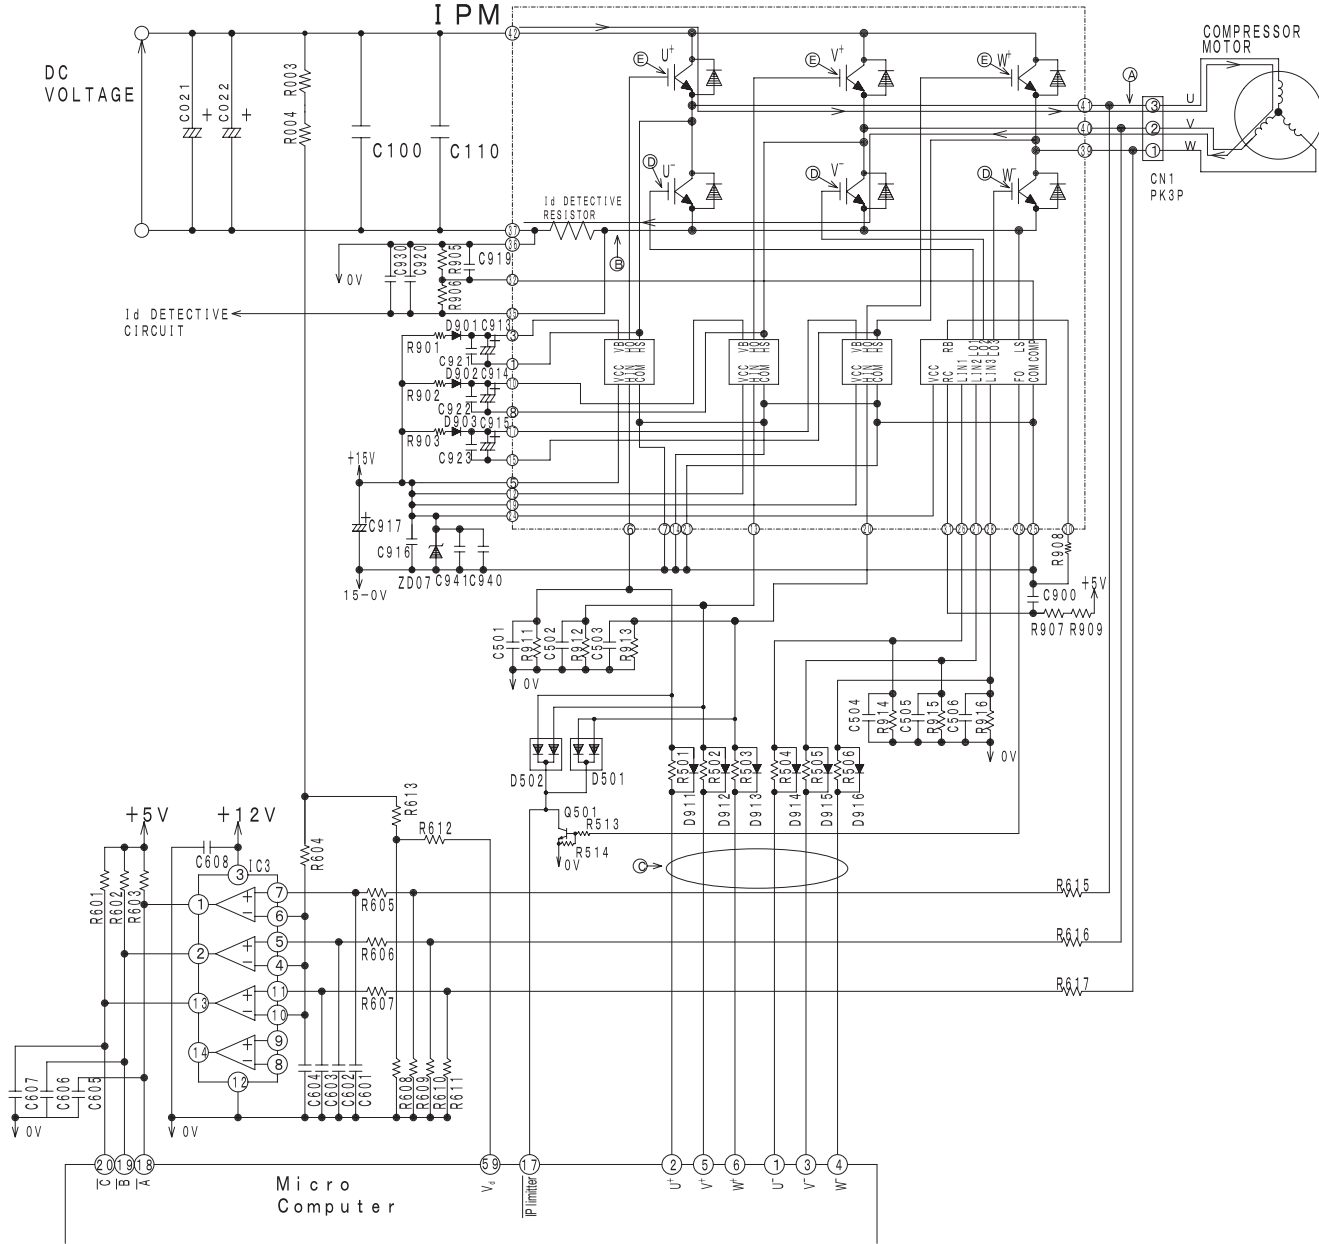
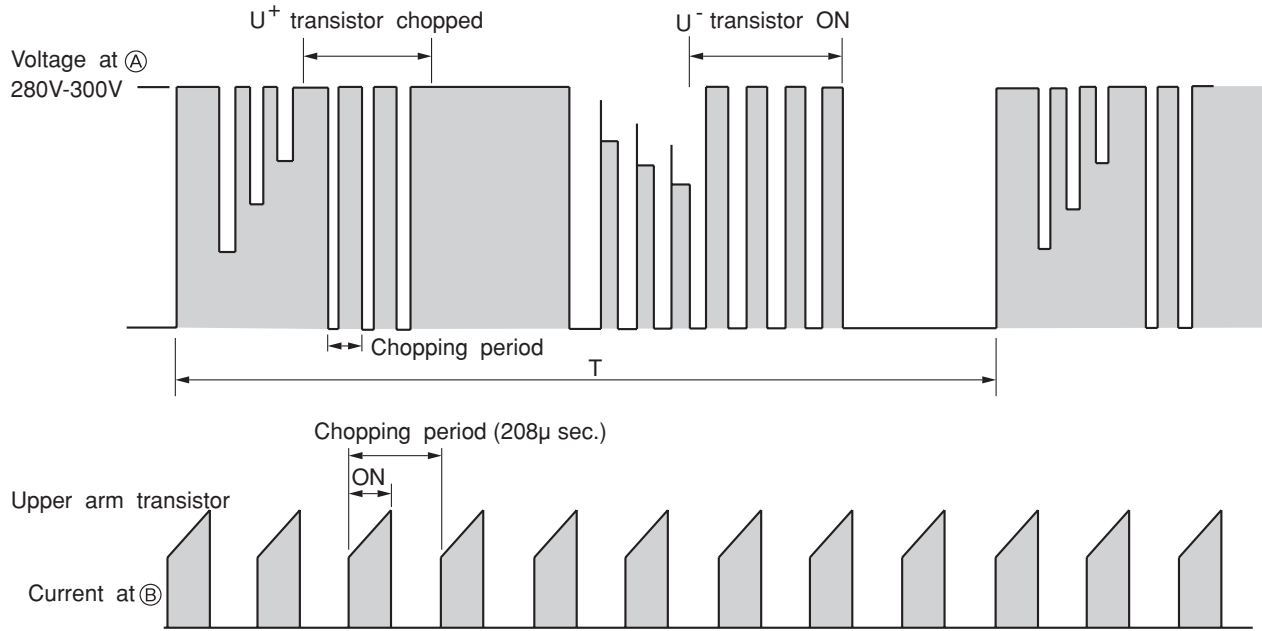

Fig. 4-1 Intelligent power module circuit (U+ is ON, V- is ON)
Fig. 4-3 Voltage waveform at each point
- Fig.4-1 shows the intelligent power module and its peripheral circuit. The three transistors on the positive (E) side are called the upper arm, and the three transistors on the negative (D) side, the lower arm.
At point ⑤: U+ is ON, V- is ON (circuit in Fig. 4-1)
Fig. 4-3 shows voltage waveform at each point shown in Figs. 4-1 and 4-4. First half of upper arm is chopper, second half is ON, and first half of lower arm is chopper, second half is ON.
- (1) When U+ transistor is ON: U+ transistor → U coil → V coil → V- transistor → DC current detection resistor → Point ⑥ (Fig. 4-1)
Since current flows at point ③ only when U+ transistor and V- transistor are ON, the current waveform at point ③ becomes intermittent waveform as shown in Fig. 4-3. Since current at point ③ is approximately proportional to the input current of the air conditioner, input current is controlled by using DC current (Id) detection resistor.